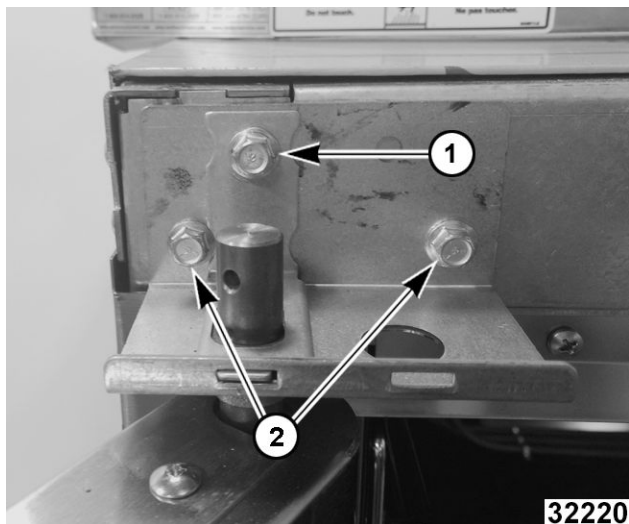

Fig. 40
6. While supporting door, remove hex head bolts holding upper bearing retainer (1, Fig. 40) and upper shaft bracket (2, Fig. 40).